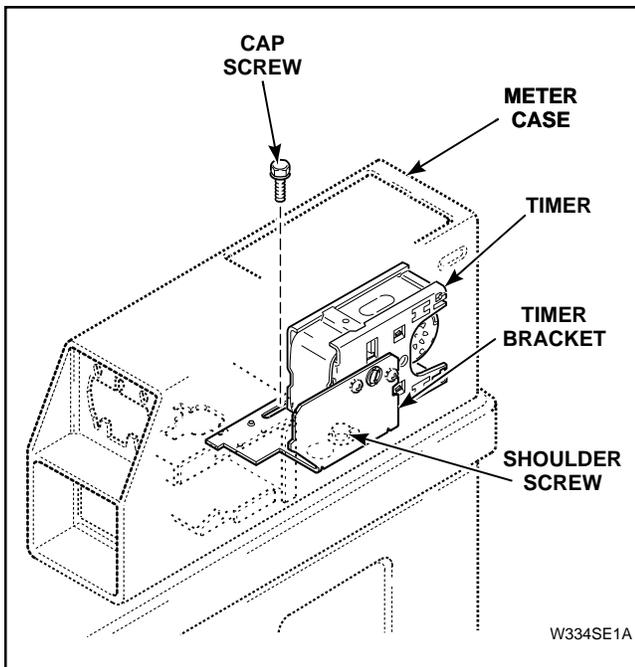

Figure 8
2. Remove timer bracket cap screw, *Figure 8*.
4. Carefully place timer and timer bracket down inside meter case so keyhole slot in bracket fits over the head of shoulder screw, *Figure 8*.
5. After positioning timer bracket over shoulder screw, slide timer and bracket forward until bottom front of bracket contacts rear of coin vault in meter case, *Figure 8*.
6. While holding timer bracket up against rear of coin vault, install cap screw and tighten firmly, *Figure 8*.
**NOTE:** When installing meter case, shoulder screw must be installed in outer hole, *Figure 8*, to enable timer bracket to slide under screw head.